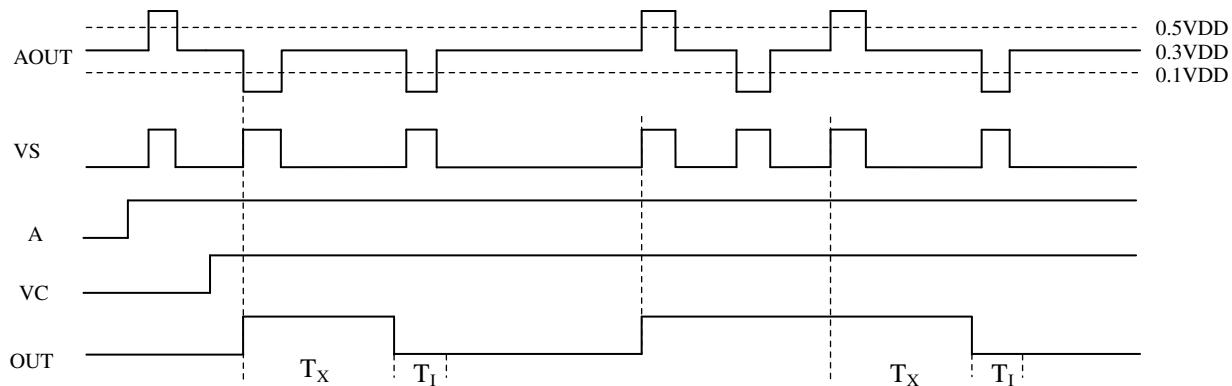

Fig4. Repetitive trigger
2. When A = VDD, operating mode is set to repetitive trigger, any changes in VS during the T_X time allows the T_X time to be recounted. Explanation is following by fig.4.